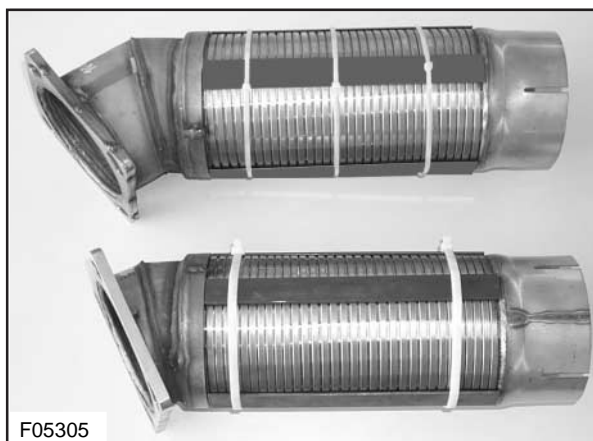

Figure 1 : Detroit Diesel flex assembly VH 10699820 (top) is longer than Cummins assembly VH 10699822 (bottom).
3. Figure 1 shows the visual features which set apart the new Cummins flex from the flex on Detroit Diesel engines.